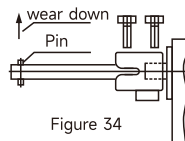

Figure 34
(3) As shown in Figure 34: If cabinet door interlocking is not required, the cylindrical pin at the rivet pin end of the extended shaft can be ground flat; If cabinet door interlocking is required, there is no need to grind it flat. Then insert the extension shaft into the hole of the connecting sleeve and fasten the switch square shaft with the connecting sleeve and extension shaft using two hexagonal head bolts.